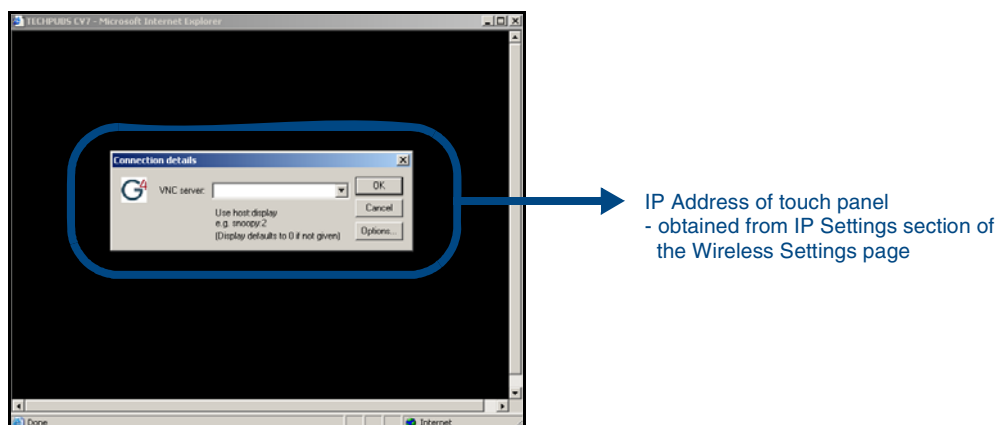

FIG. 55 Connection Details dialog
- In some cases, you might get a *Connection Details* dialog (FIG. 55) requesting a VNC Server IP Address. This is the IP Address not the IP of the Master but of the target touch panel. Depending on which method of communication you are using, it can be found in either the:
- 10.** Enter the Web Control session password into the *Session Password* field (FIG. 55). *This password was previously entered into the Web Control Password field within the G4 Web Control page on the panel.*